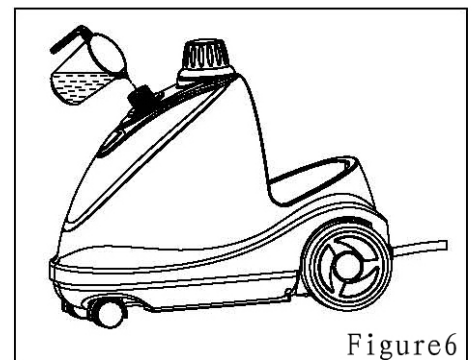

Figure6
5. Slowly pour the water-vinegar solution into the *Hose Base* connector. As show in (Figure 6)